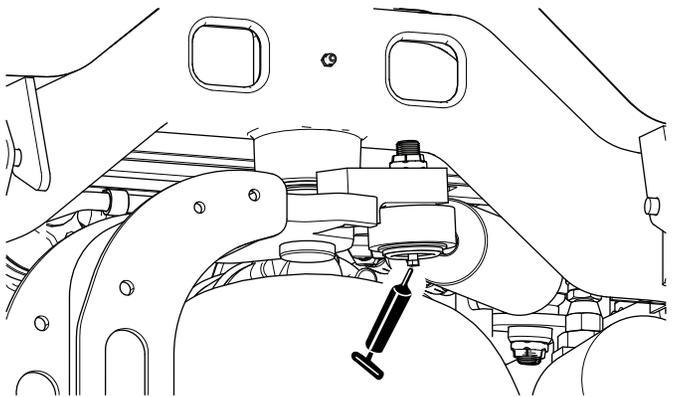

Figure 67
**Note:** If desired, install an additional grease fitting in the other end of the steering cylinder. Remove the tire, install the fitting, grease the fitting, remove the fitting, and install the plug (Figure 67).